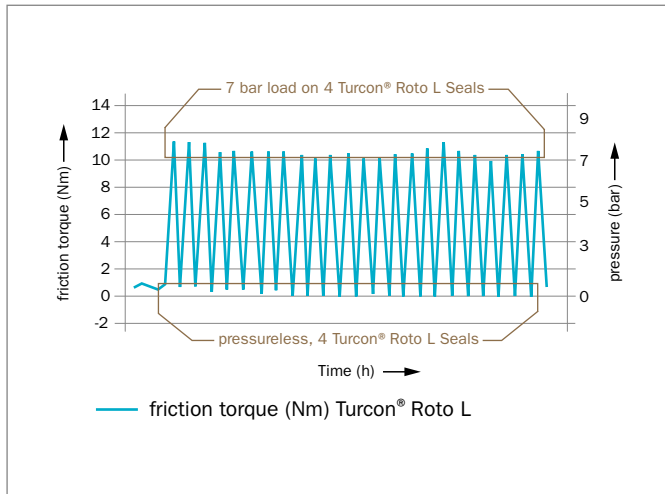
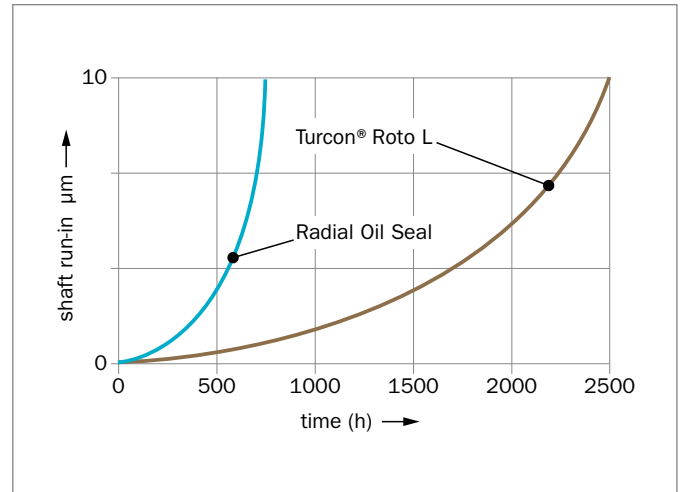

Figure 97: Dry air torque test
Figure 98: Lifetime of hardware
- Extended seal life on axle systems due to reduced frictional torque (see Figure 97 and Figure 98)